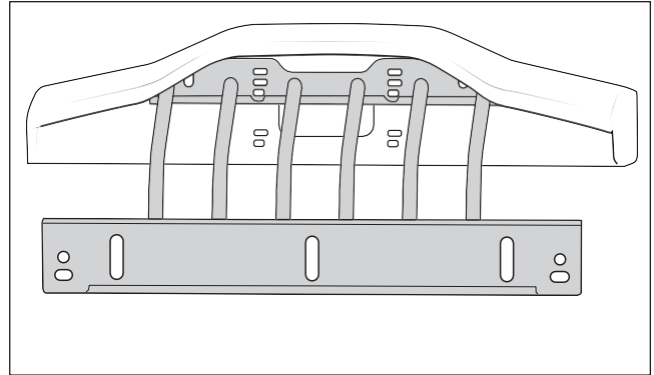

Figure 6
- B. For 2013 1/2 — 2018 trucks, the forward set of holes on the bumper will be used (fig. 6).